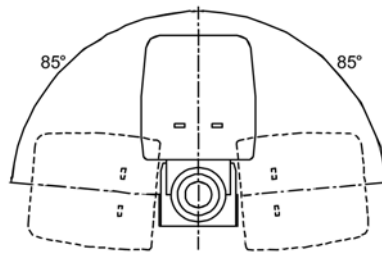

Figure 4
- Note: When the valve is mounted on horizontal pipe, the angle must be positioned less than 85 ° (see Figure 4), and it must be prevented from dripping. When the valve is mounted on vertical pipe, it must be prevented from dripping.